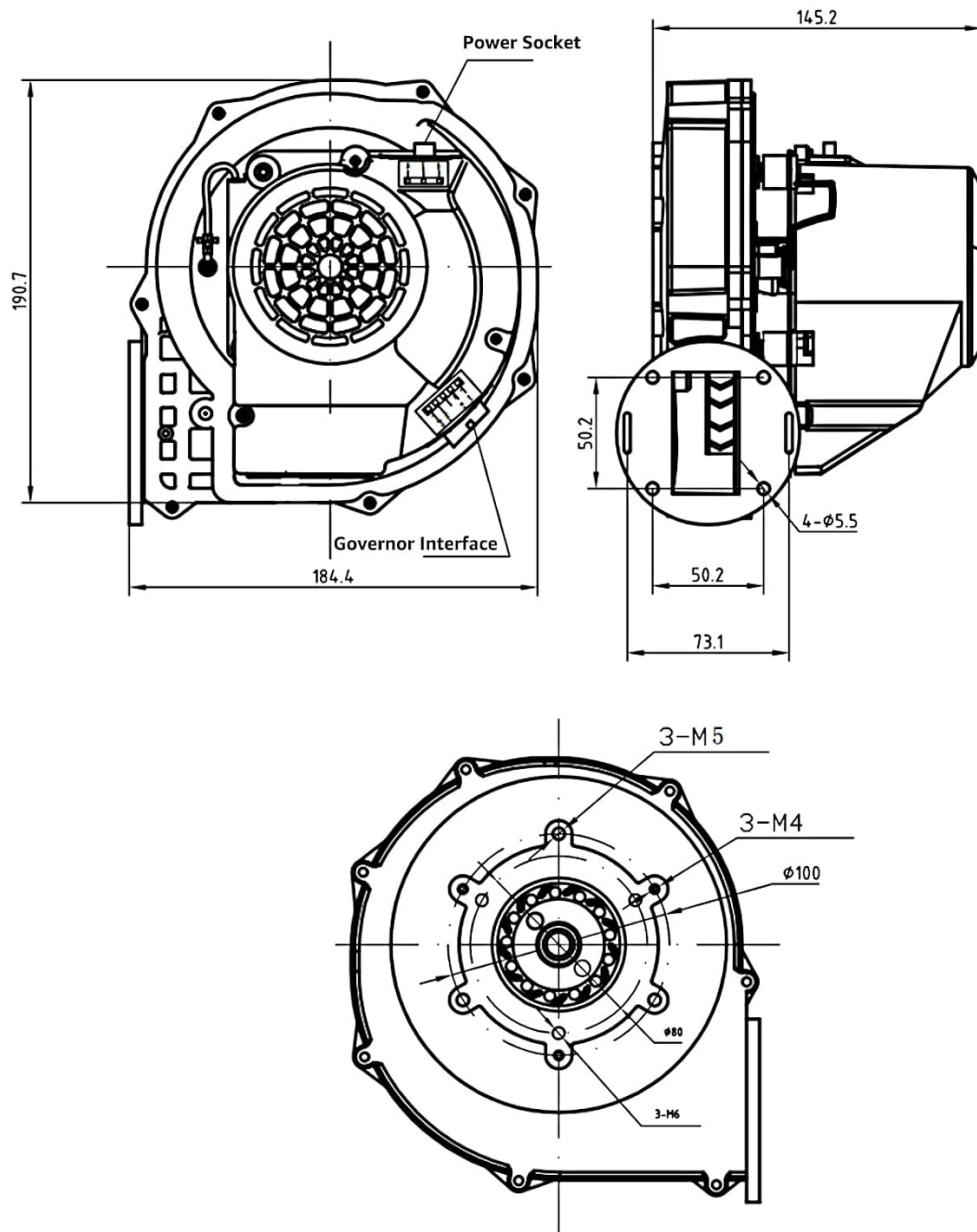

Figure 4.4: Technical drawing showing the dimensions and mounting points of the blower cooling fan.
2. **Mounting:** Secure the fan to the desired mounting surface using appropriate fasteners. Refer to the dimensional drawing (Figure 4.4) for mounting hole locations.